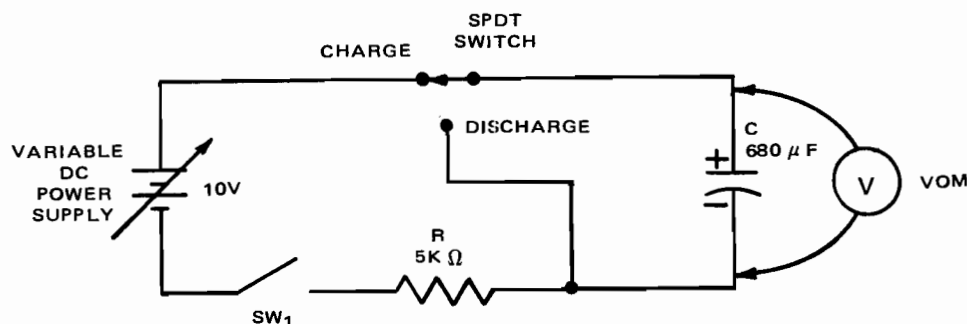
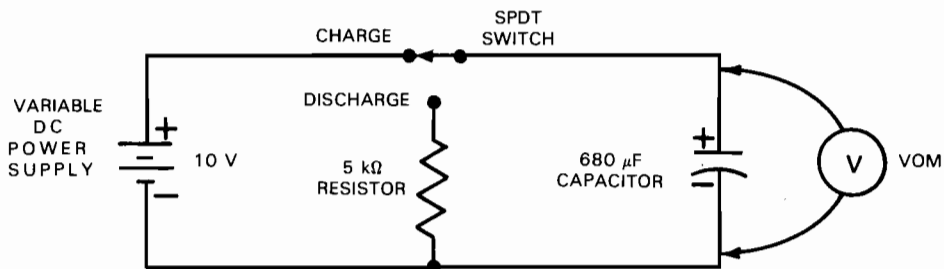

Fig. 10-3-1
Fig. 10-3-3
1. Connect RC circuit shown in Fig. 10-3-1. A 680 μ F capacitor may be mounted separately on a strip or obtained from power supply module.
- Change RC circuit in Fig. 10-3-1 to conform with circuit shown in Fig. 10-3-3. Capacitor in this circuit charges instantly, but discharges through a resistor.